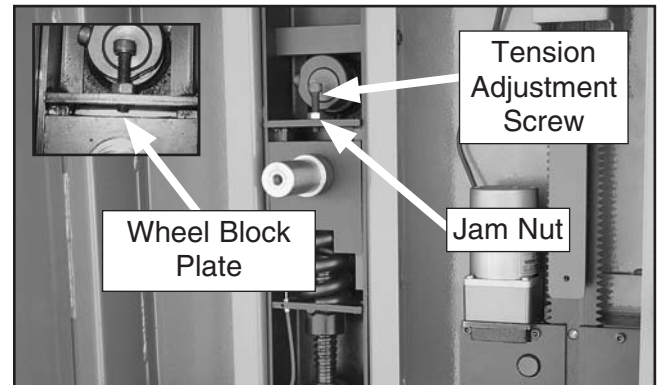

Figure 75. Quick release tension lever adjustment screw.
3. Loosen the jam nut (see **Figure 75**), then remove the screw and nut.
5. Thread the cap screw with the jam nut through the plate where it was attached previously and down until it contacts the wheel block plate, then back the screw off two full turns (see **Figure 75**).